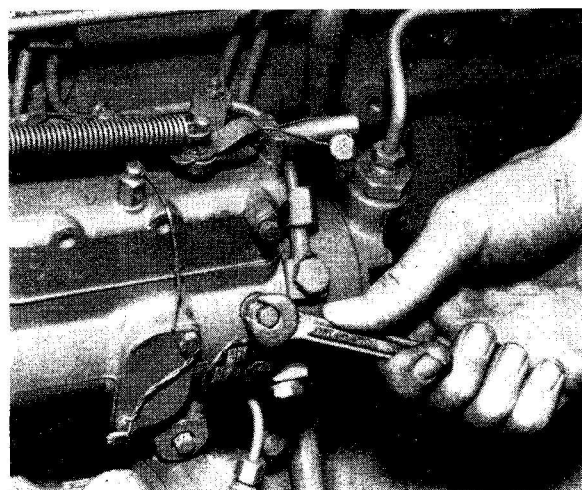

Fig. 15
2. Slacken the vent valve fitted on one of the two hydraulic head locking screws (Fig. 15).